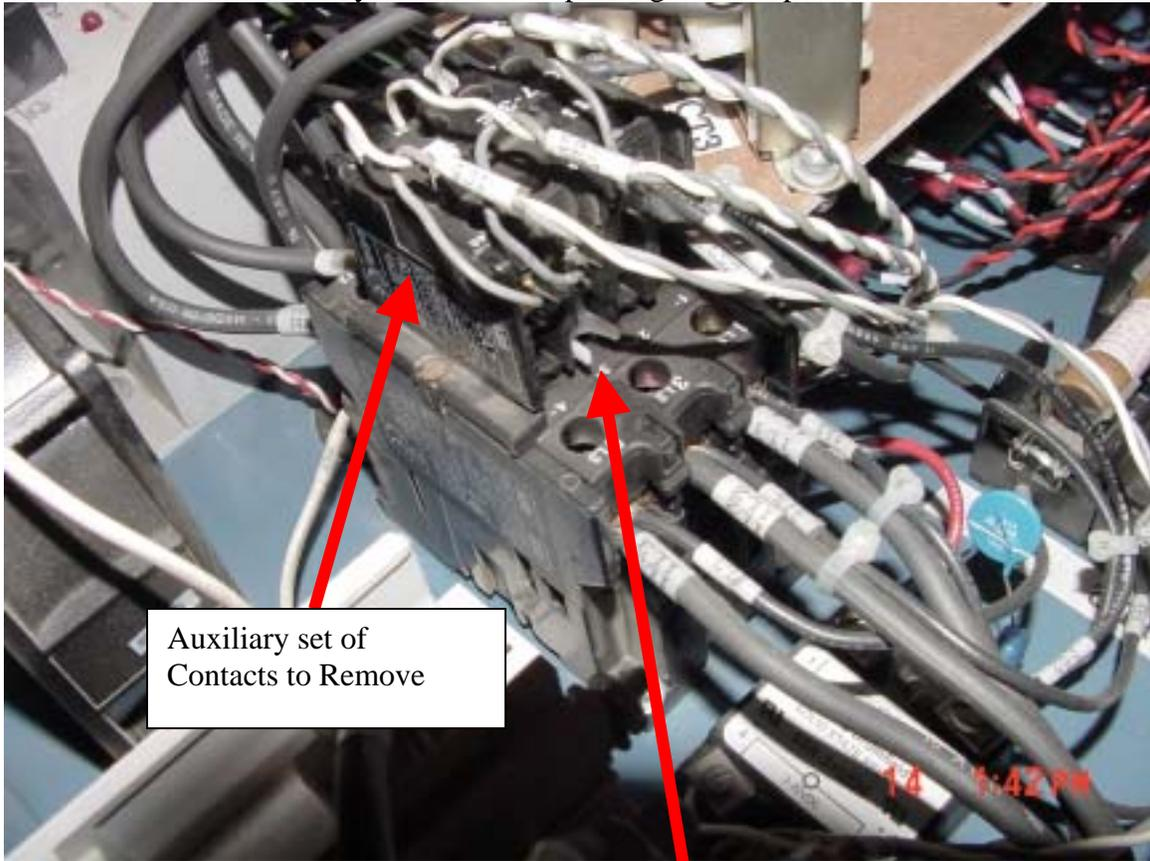

Figure 3
15. In Figure 3 see the white TAB pointed out by the RED arrow. To remove this set of auxiliary contacts you push up on the white tab and slide out the auxiliary set of contacts towards you hand that is pushing the tab up.